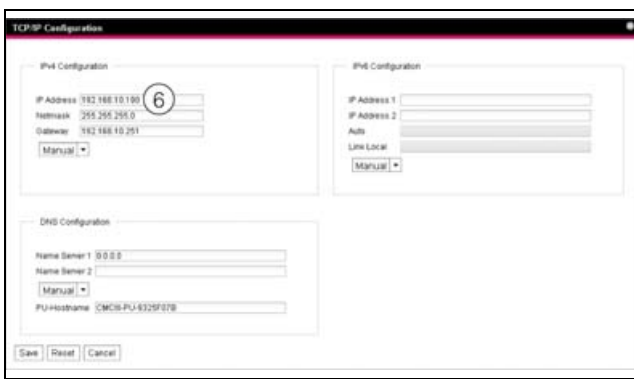

Fig. 77: Adjusting the TCP/IP settings
- In the TCP/IP Configuration window, change the device's IP address in the IPv4 Configuration group box to an address permitted in the network (fig. 77, item 6).